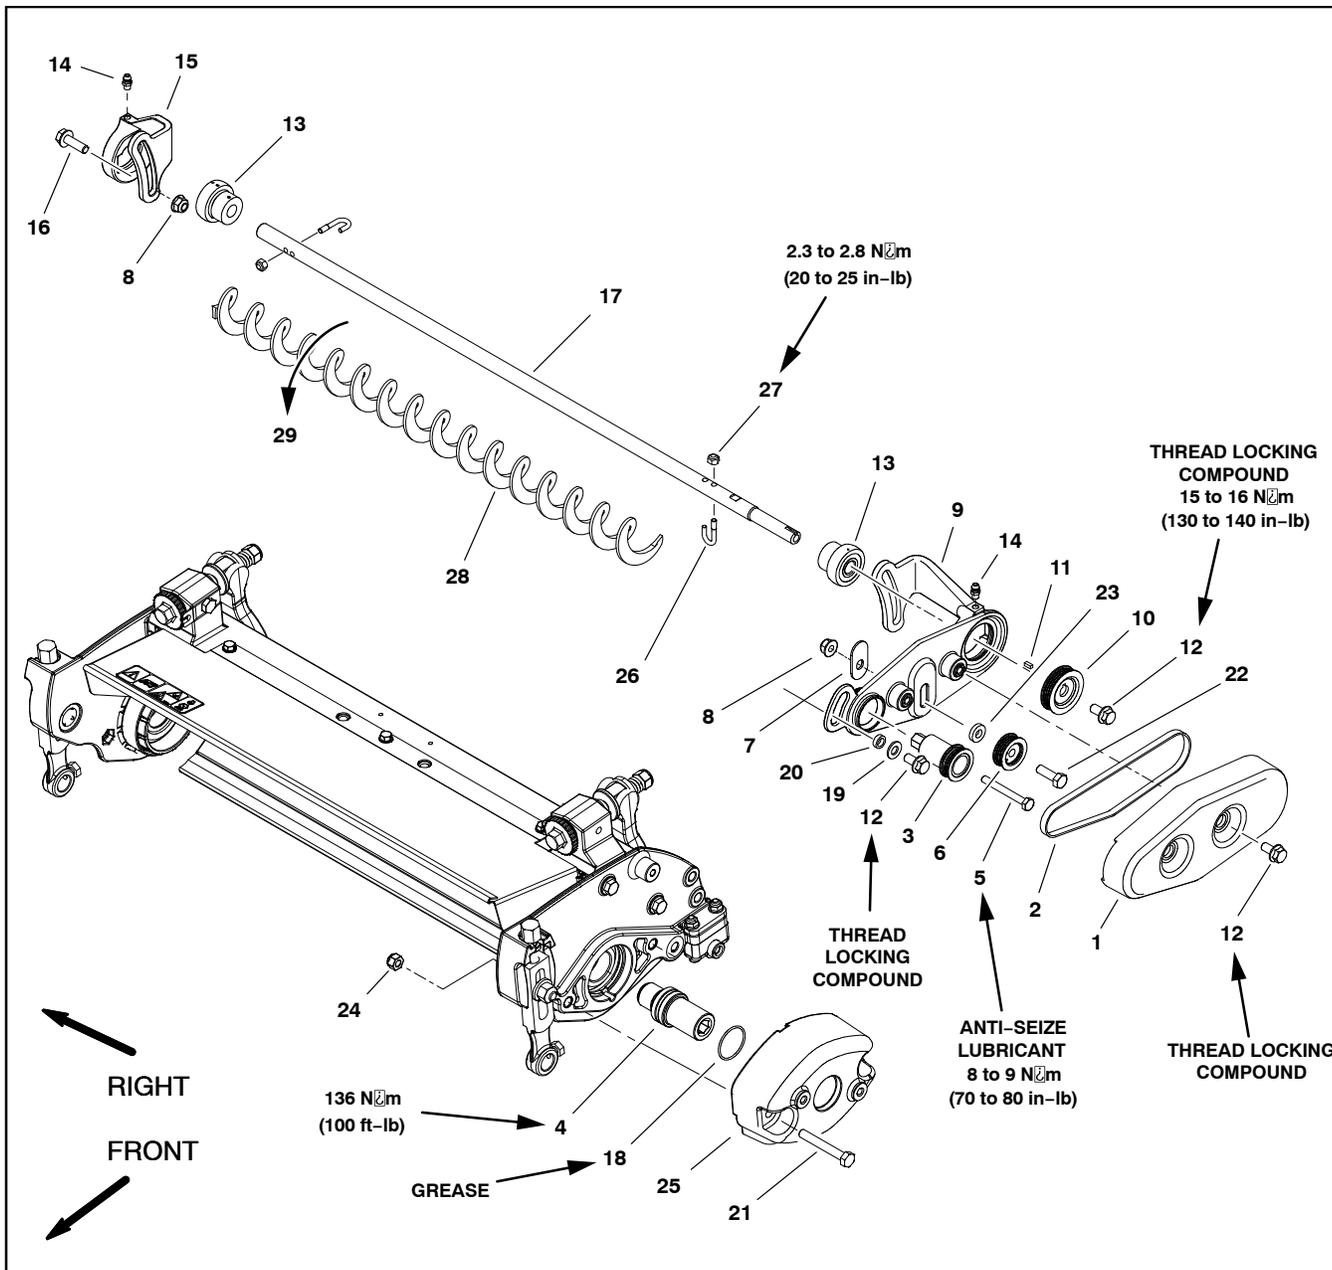

Figure 41
4. Push down on the idler pulley and secure it to the drive plate. Make sure the cover plate (item 7 in Fig. 41) is positioned to prevent debris from entering the drive area.
Refer to Fig. 41 for this procedure.
3. If the pulley driver (item 4 in Fig. 41) requires replacement (machines without a belt driven groomer):